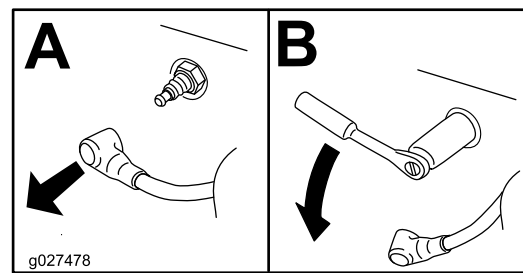

Figure 36
4. Remove the spark plug (Figure 36).